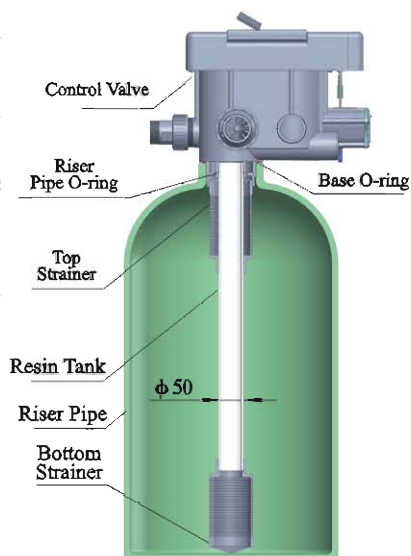

Figure1-1
- ① The filter or softener should be located close to drain.
- ② Ensure the unit is installed in enough space for operating and maintenance.
- ③ Brine tank need to be close to softener.
- ④ The unit should be kept away from the heater, and not be exposed outdoor. Sunshine or rain will cause the system damage.
- ⑤ Please avoid to install the system in one Acid/Alkaline, Magnetic or strong vibration circumstance, because above factors will cause the system disorder.
- ⑥ Do not install the filter or softener, drain pipeline in circumstance which temperature may drop below 5°C, or above 50°C.
- ⑦ One place is recommended to install the system which cause the minimum loss in case of water leaking.
①Install control valve
a. As the Figure 1-1 shows, select the riser pipe with 50mm OD, glue the riser pipe to the bottom strainer and put it into the mineral tank, cut off the exceeding tube out of tank top opening.